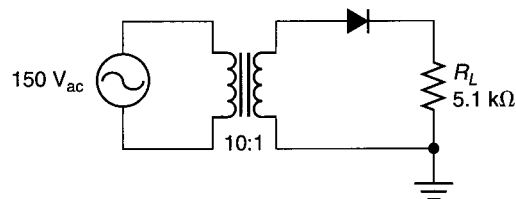

FIGURE 3.53
2. Determine the ac secondary voltage for the circuit shown in Figure 3.53.
4. Determine the peak secondary voltage for the circuit shown in Figure 3.53.
8. Determine the peak load voltage for the circuit shown in Figure 3.53.
12. Determine the average (dc) load voltage for the circuit shown in Figure 3.53.
15. Assume that the diode in Figure 3.53 is reversed. Determine the new values of  $V_{L(pk)}$ ,  $V_{ave}$ , and  $I_{ave}$  for the circuit.
17. Determine the PIV for the diode in Figure 3.53.